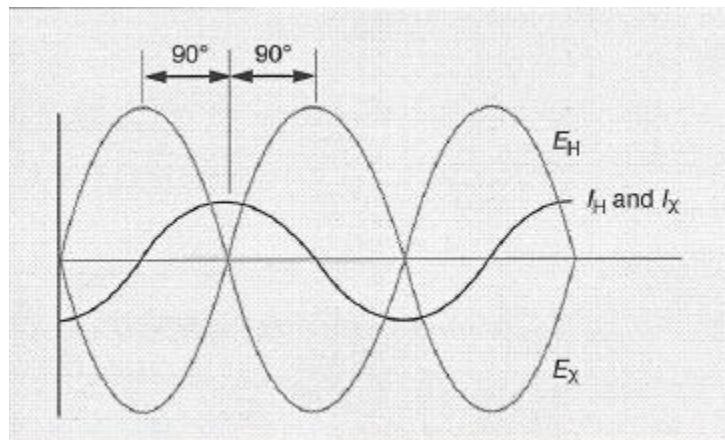

Figure 8.6: AC Values in Transformer Windings
- 8-15 If the two windings have no resistance, the current in the primary lags the potential difference by  $90^\circ$ . Therefore, the potential difference in the secondary lags the potential difference in the primary by  $180^\circ$ . Figure 8.6 is a graph showing this relationship between the potential differences and the currents in the two windings.